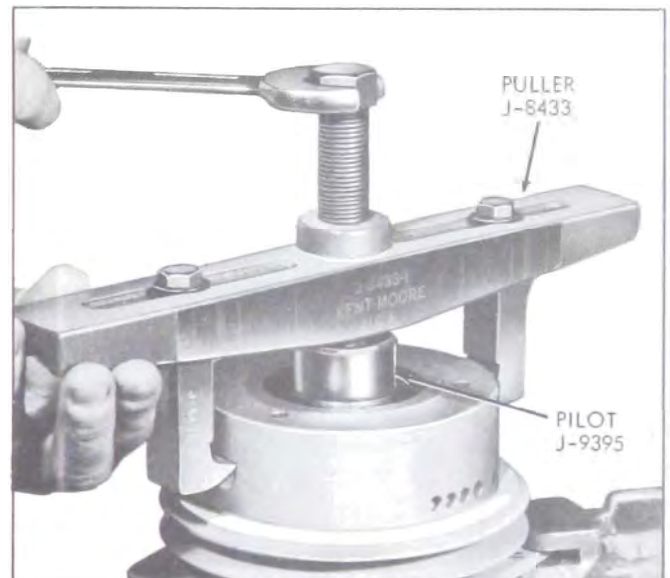

Figure 11-44—Removing Pulley Assembly
3. Place J-9395 puller pilot over compressor shaft and remove pulley assembly, using J-8433 puller. See Figure 11-44.